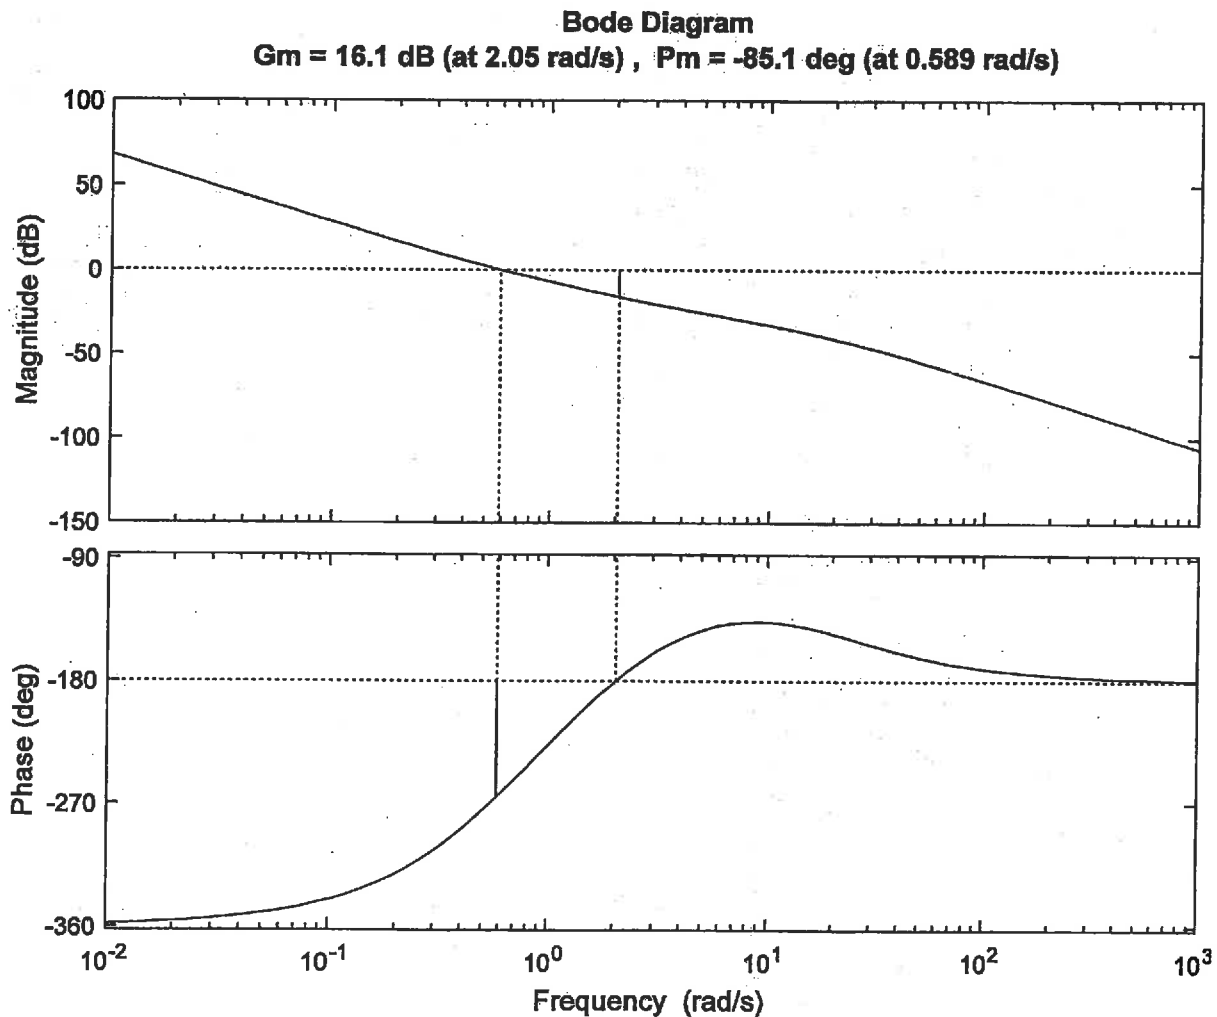
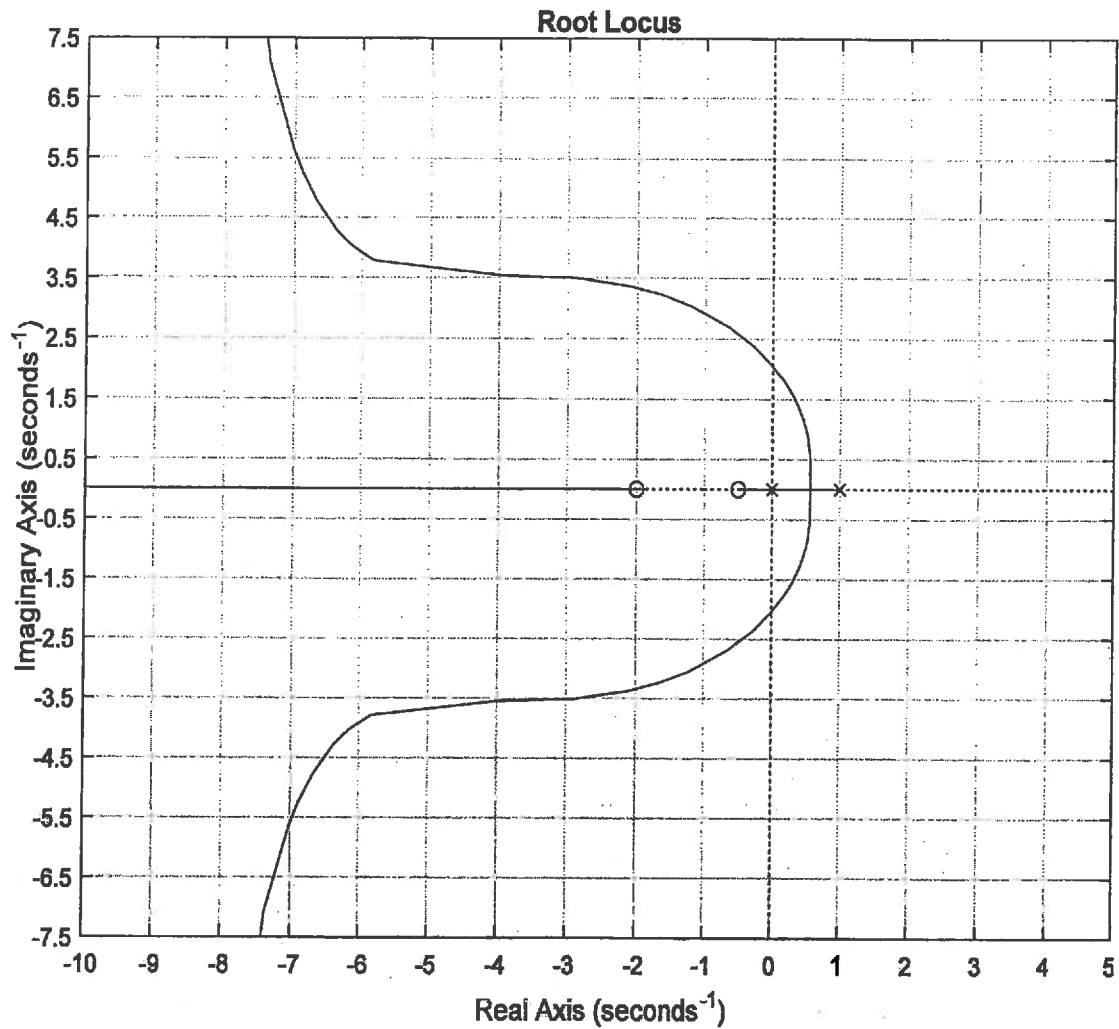

Figure Q4.1 – Open Loop Compensated System Frequency Response
Figure Q4.2 – Root Locus of the PID-Compensated System
The PID controller time constants are as follows: $T_i = 2$ seconds and $T_d = 0.5$ seconds. A frequency response (Bode plot) for the compensated open loop system is shown in Figure Q4.1, and the corresponding Root Locus plot is shown in Figure Q4.2.
1. (10 marks) Use the information provided in Figure Q4.1 & Figure Q4.2 to determine the range of Proportional Gain, K_p , for a safe, stable operation of the closed loop system.
2. (10 marks) Verify the range of Proportional Gain, K_p , found in item 1) for the safe, stable operation of the closed loop system, by using the Routh-Hurwitz Criterion of Stability.